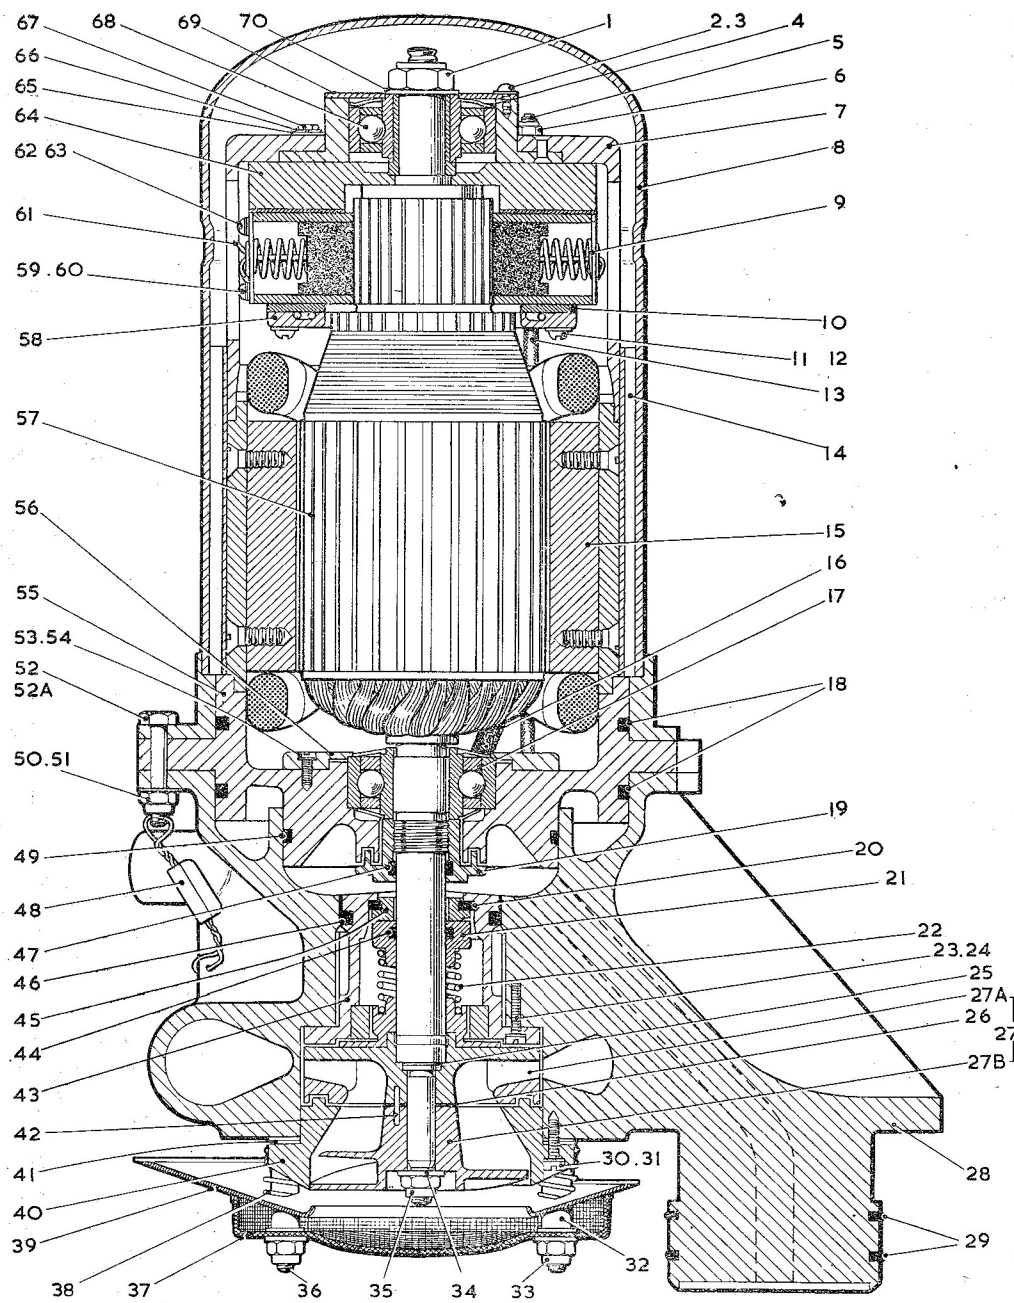
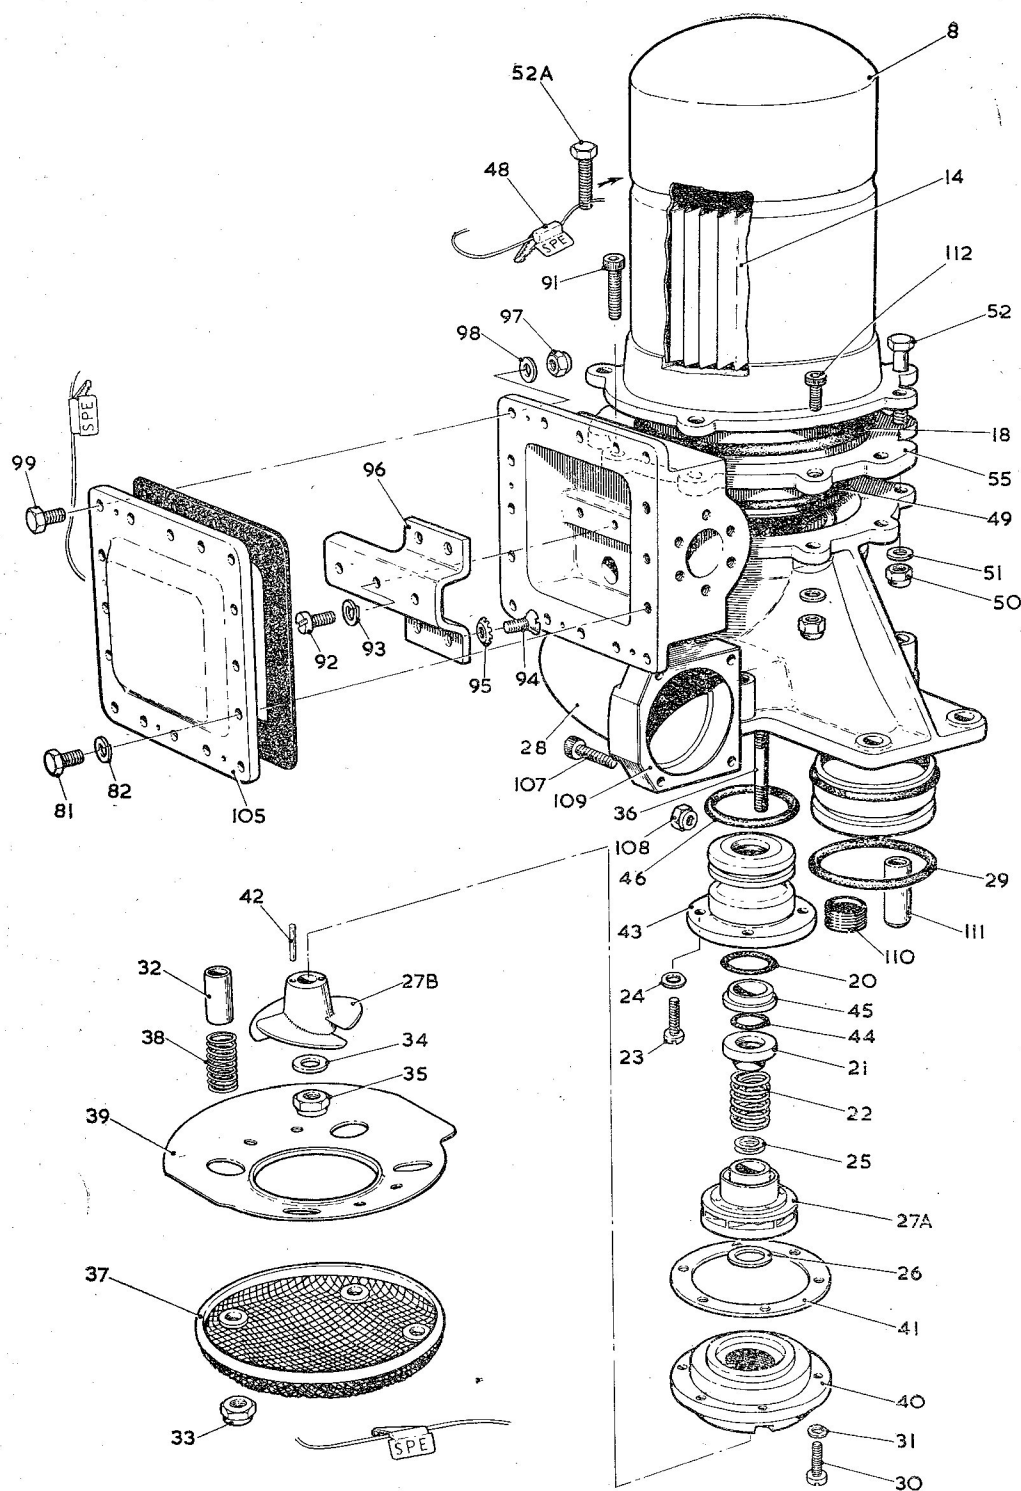

Fig. 1. Sectional view of pump unit
Fig. 3. Exploded view of pump unit
4. Refer to fig. 1 and 2 (sectional views) and fig. 3 and 4 (exploded views), and cut the locking wires to all external seals (48, fig. 1).
Key to Fig. 1
Removing the base filter assembly (fig. 1)
Separating the motor unit from the pump body casting (fig. 1 and 2)
Key to Fig. 3